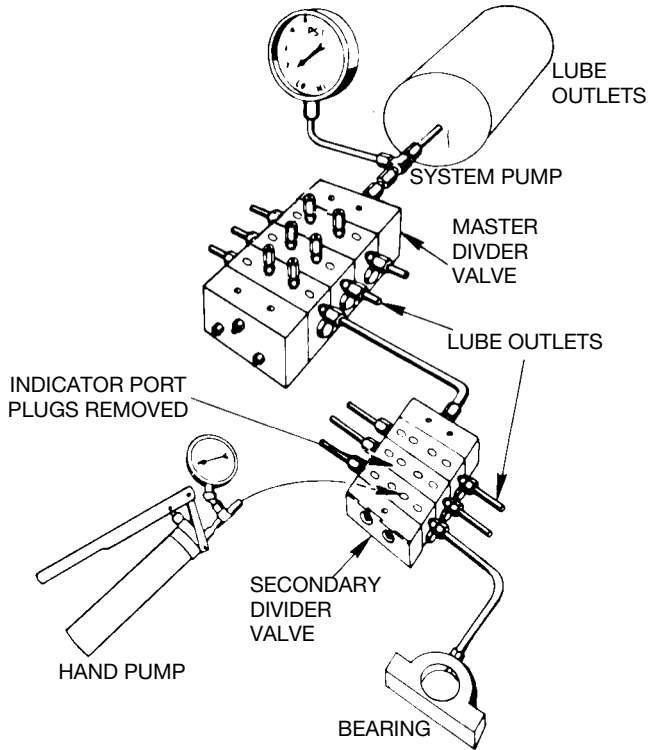

FIG. 14
6. Install the manual pump into each indicator port of the secondary divider valve, in turn, and slowly operate the pump (FIG. 14). If high pressure exists, the blockage has been located. Look for crushed lines, tight bearings, and improperly drilled fittings and lube inlet ports. Correct as necessary.